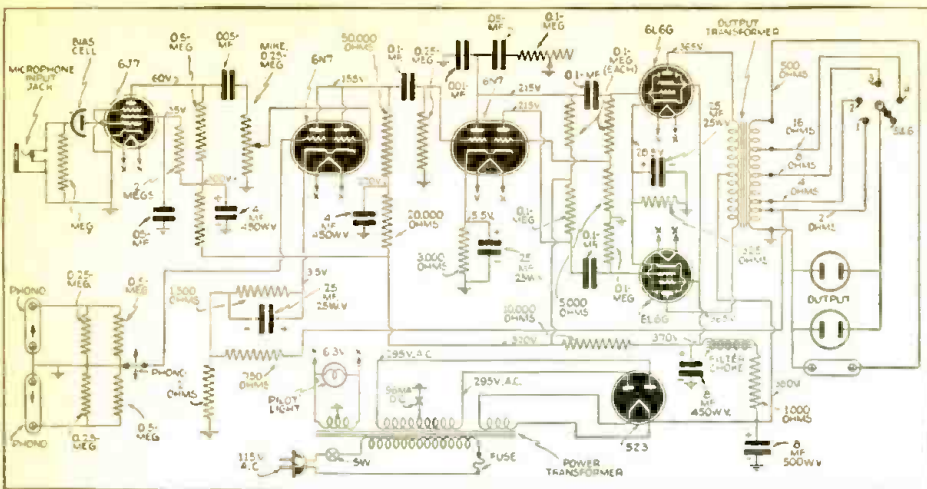

Fig. 3. Complete schematic diagram of a modern 18-W. public-address amplifier.
**Circuit-Grounding Jacks.** The 12-watt amplifier, as well as the 18-watt unit illustrated in Fig. 3, uses shorting-type microphone input jacks. This type of jack has the advantage of grounding the grid circuit in case a microphone plug is pulled out. This grounding is of considerable advantage in eliminating hum and noise pick-up when a channel not used is in the operating position because the volume control is not turned down all the way.
The plate voltage to the output type 6L6G tubes (Fig. 3) is obtained directly after the first filter condenser, but the screen-grid voltage for these tubes and the other potentials require additional filtering.